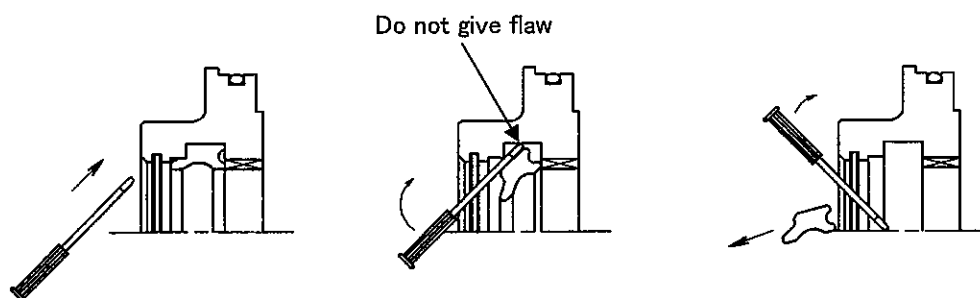

Fig. 7-20
#### (1) Rod packing (Fig. 7-20)